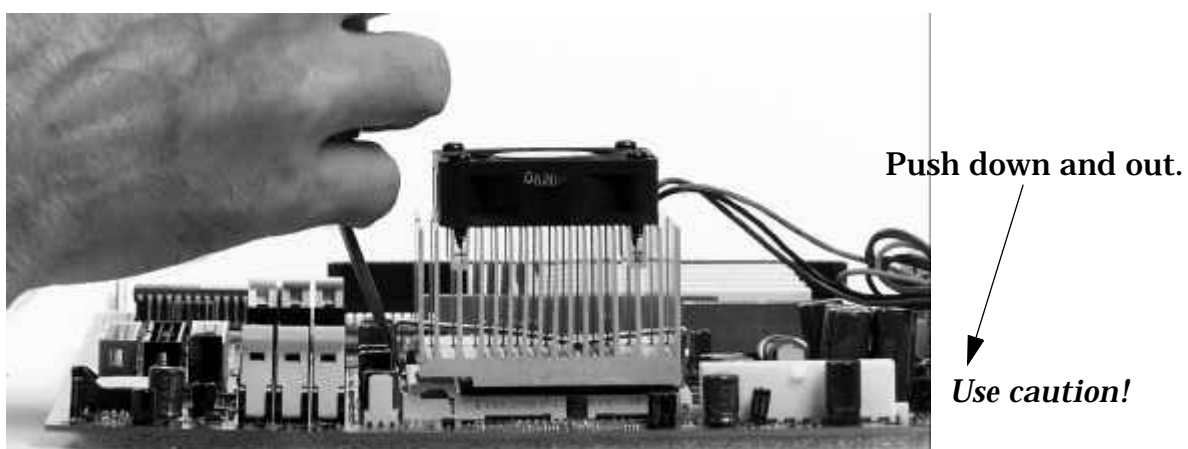

Figure 16. Pushing the Clip Past the Socket Lug
16. Figure 16 shows the clip being pushed past the lug. Push downward with a slight outward motion so that the clip goes over the lug on the socket.